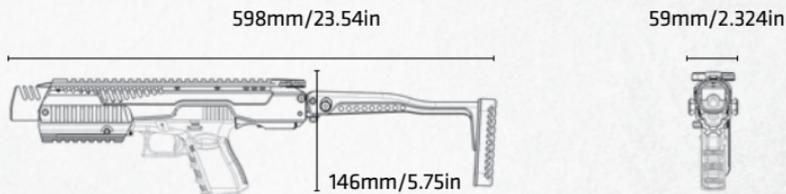

Fig 15
**Step 2.** Adjust the Buttstock (8) to your desired position and then tighten the screw (8.1) back into place (Fig. 15).